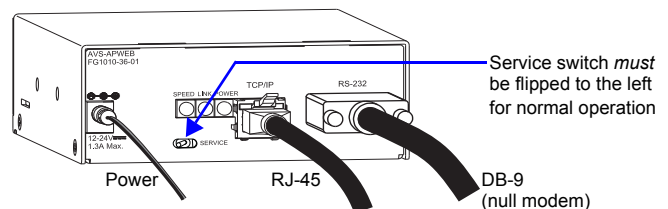
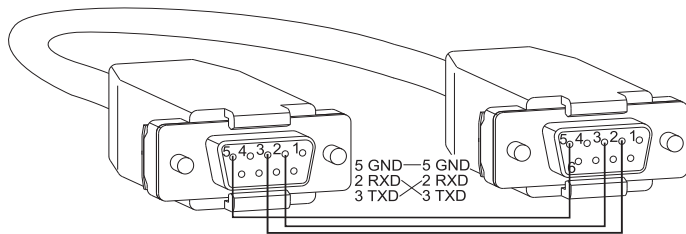

FIG. 4 Attach DB-9, RJ-45, and power connectors to APWeb Module
FIG. 5 RS-232 null modem cable pin diagram
Below the TCP/IP connector is a Service switch (FIG. 4) that can be used to override system security if the username and password are lost (to do so, the Module must be in Service mode with the switch flipped to the right). When the Module is in Service mode, the APWeb Server is disabled. Instructions for restoring the default username and password are in the *APWeb Instruction Manual*.
- Attach one end of the DB-9 null modem serial cable (see FIG. 5 on the next page for the pinout) to the RS-232 port on the APWeb Module (FIG. 4) and the other end to the serial port on the AMX AutoPatch Distribution Matrix.
- AMX AutoPatch power supply – plug the desktop power supply into the power jack on the Module (FIG. 4) and into an AC external power source.
Customer provided power supply – plug the power cord from a UL (or equivalent) listed power supply into the power jack on the Module (FIG. 4). The electrical ratings *must* meet those indicated in the specifications table (see left column).
Use the pinout in FIG. 5 when connecting the RS-232 port on the APWeb Module to the distribution matrix.